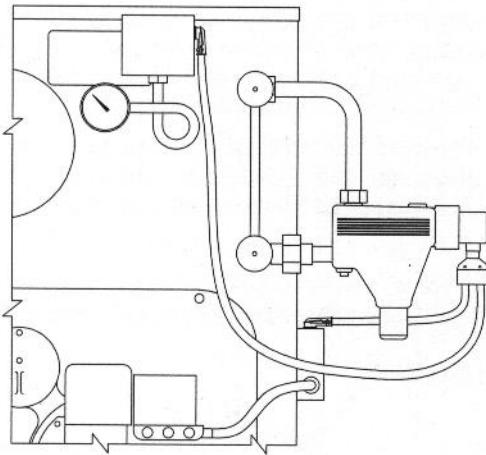

Figure 3.7: Float Low Water Cut-off
- Install the gauge glass trim and safety relief valve. See Figure 7.2 (Section 7) and Figure 3.7 (float boilers).
- See Figure 3.7 for application of float low water cut-offs.